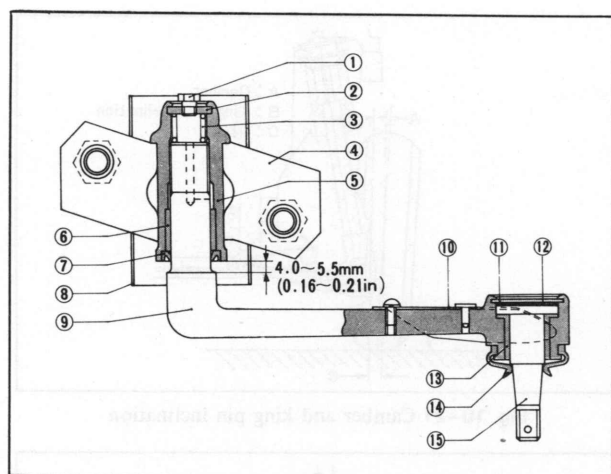

Fig. 10-18 Idler arm cross section
- (a) Check the clearance between the idler arm edge and the idler housing end as shown in Fig. 10-18. The clearance should be 4.0 ~ 5.5 mm (0.16 ~ 0.21 in).